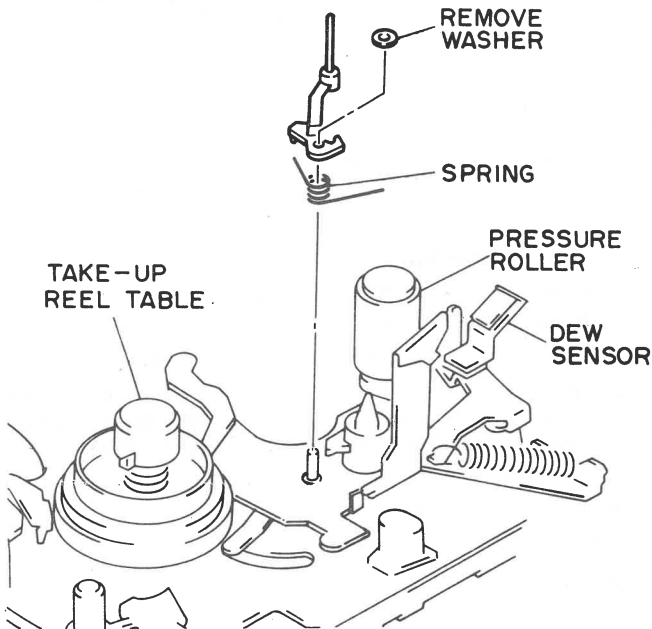

Fig. 33 Tape Drawer Pin Removal
**Tape Drawer Pin Removal (Fig. 33)**